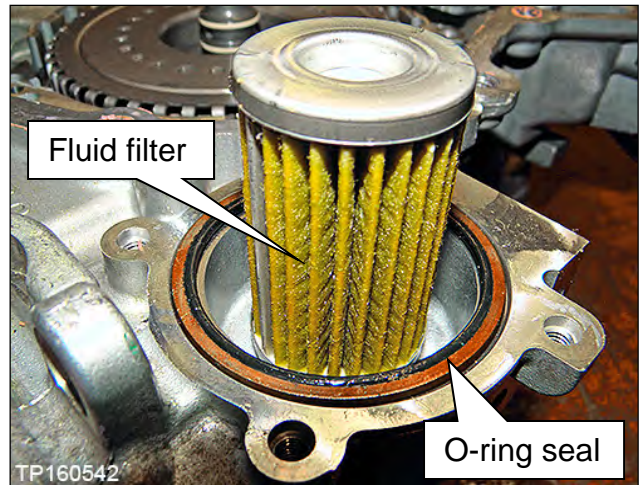

Figure 58
b. Remove the CVT fluid filter with grommet seal and O-ring seal (Figure 58).